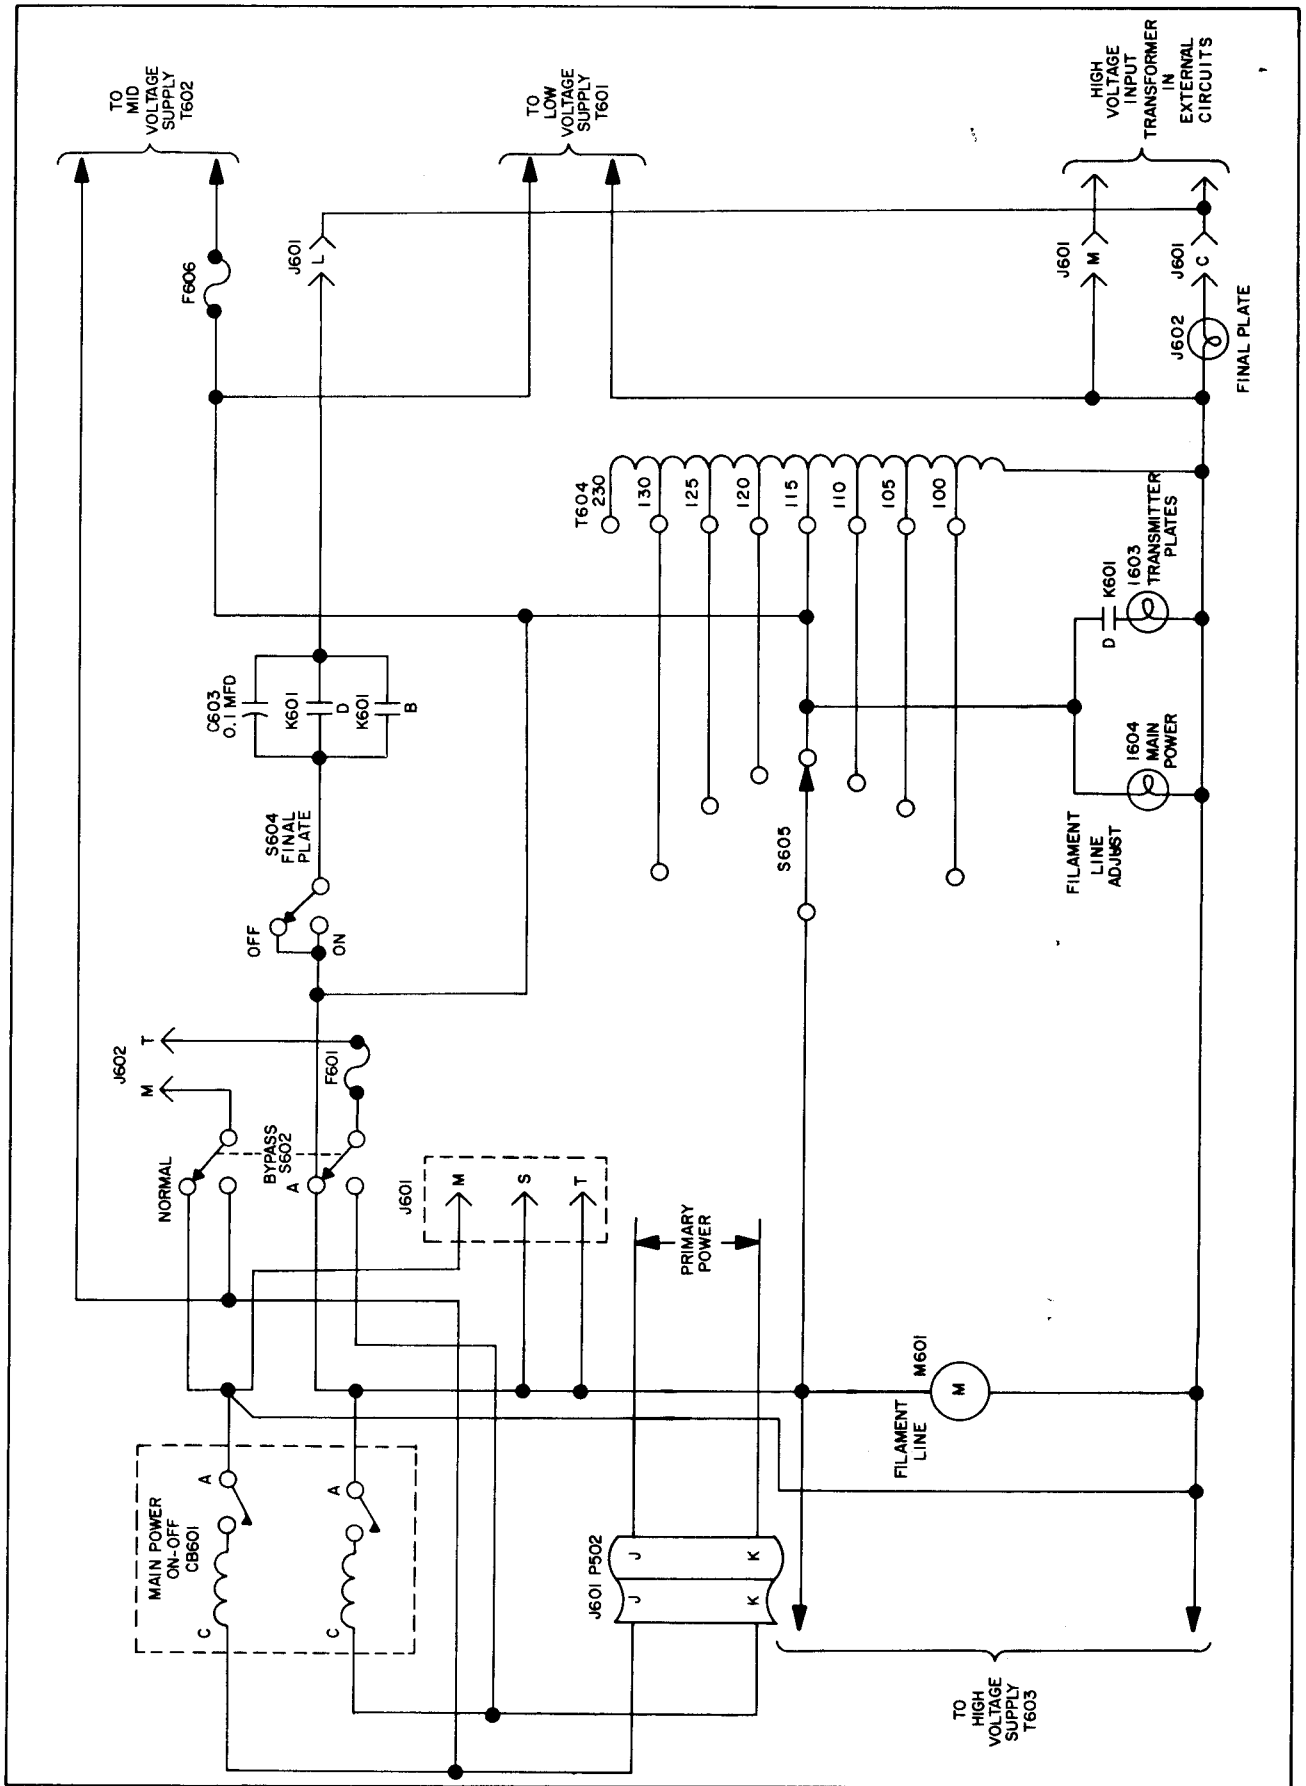

Figure 4-12. 115-Volt Line Distribution, Simplified Schematic Diagram
(1) PRIMARY POWER CIRCUITS. - The 115-volt ac line voltage to the RTP-2 unit is applied between pins J and K of plug J601. (See figure 4-12.) Line protection is provided by the MAIN POWER breaker.